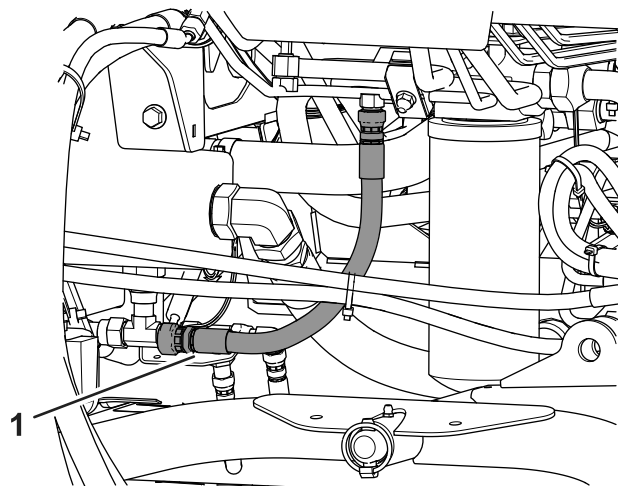

Figure 66
2. Place a large drain pan under the fitting secured to the bottom of the hydraulic-fluid reservoir (Figure 66).